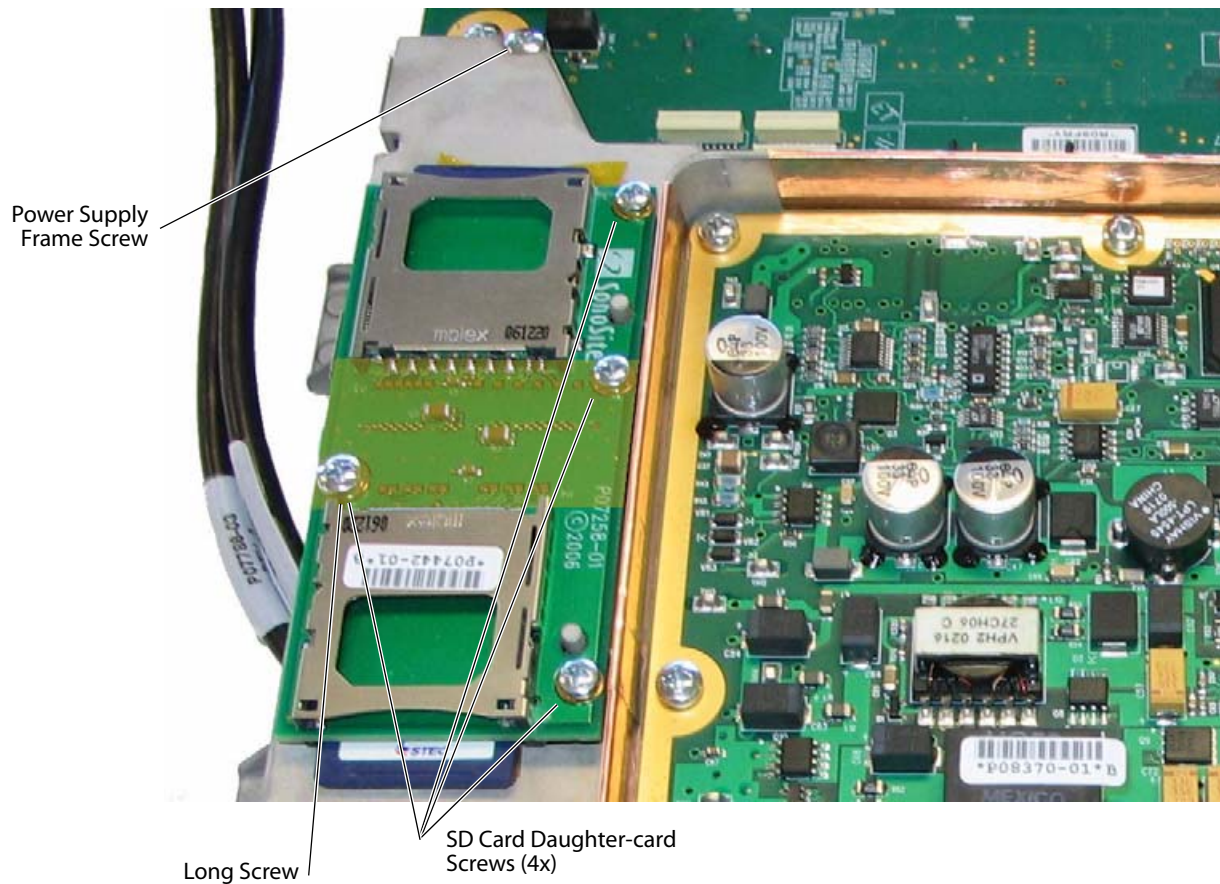

Figure 4.12 SD Card Daughter-card Screws
- 3 Remove the four screws that hold down the SD Card Daughter-card as shown in Figure 4.12. Note the location of the one longer screw for reassembly.
- 5 Remove the last Power Supply Frame screw as shown in Figure 4.12 on page 24.
- 13** Install the daughter-card screws ensuring the proper location of the longer screw as shown in Figure 4.12 on page 24. Torque the screws to 5.5 inch/pounds (.622 Newton-meters).